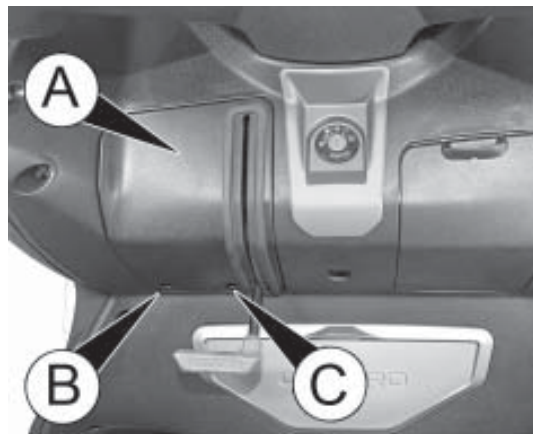

fig. 2
- Remove cover A fig. 2 by unscrewing screws B and C